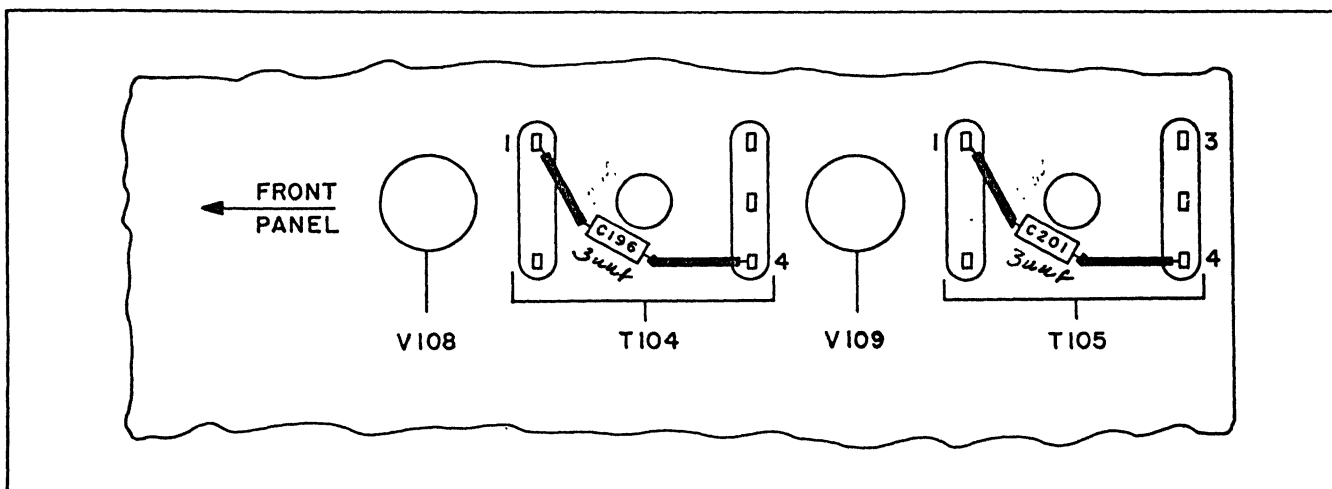

Figure 3. Broadbanding Wiring, Bottom View
- ☐ 50. Referring to Figure 6, locate i-f transformers T104 and T105 on top of the receiver chassis. Locate their terminals below the chassis, as shown in Figure 3 (p. 7).
- ☐ 51. Refer to Figure 3 to find small ceramic capacitors C196 and C201. [ 51J-2: These capacitors are not used on some models. If not used, omit procedures 51 and 52.] Unsolder, remove, and discard C196 from terminals 1 and 4 of T104.
- ( ) 53. Connect and solder new capacitor C196 between terminals 1 and 4 of T104, as shown in Figure 3.
☐ 67. A single insulated wire or coax connects to terminal 3 of T105 (see Figure 3). The other end connects to a standoff tie-point. To measure diode-detector output voltage, connect a d-c vacuum-tube voltmeter from this tie-point to the chassis. Switch the meter to read negative d-c voltage on a 5- or 10-volt range. Turn the receiver on.